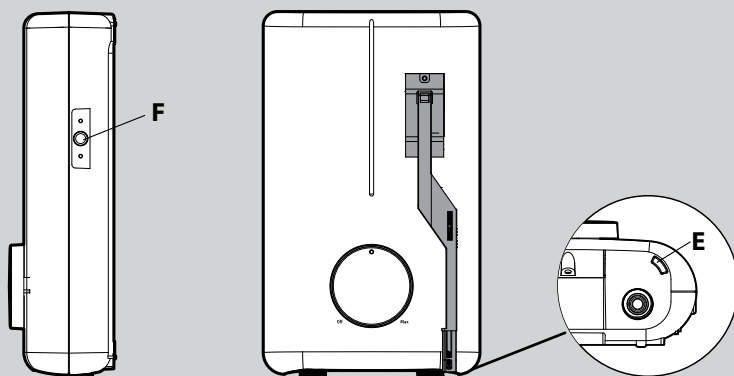

Fig 19
2.2 The essentials - in brief (Fig 19)